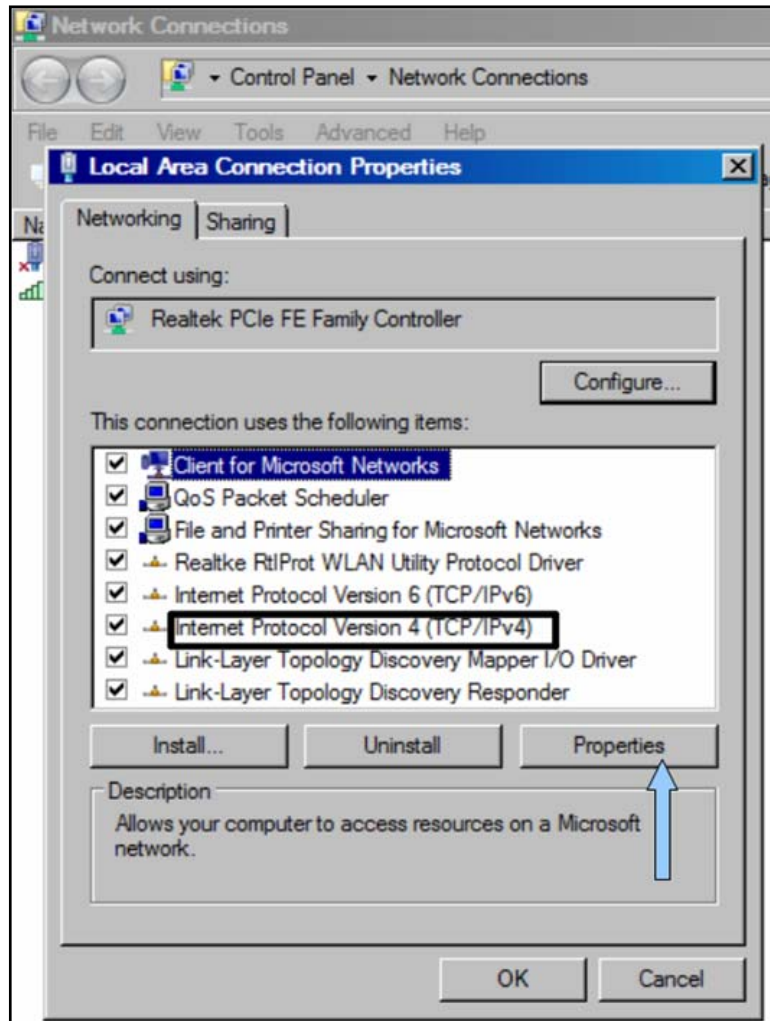

Figure 5-3. Select Internet Protocol Version 4
4. Click on Internet Version Protocol (TCP/IPv4) and then click on Properties, **Figure 5-3.**